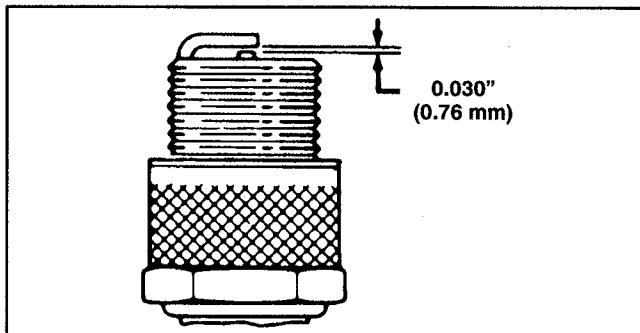

Figure 12
- Set air gap at 0.030" (0.76 mm) (Fig. 12). Install correctly gapped spark plug and gasket seal. Tighten plug firmly to 15 ft-lb (20 N·m).